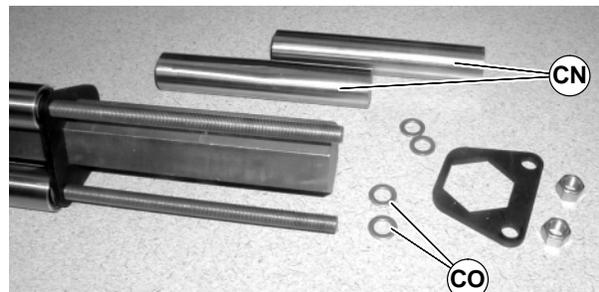

Figure 70
7. Remove pulleys (CN of Figure 70) and additional washers (CO).